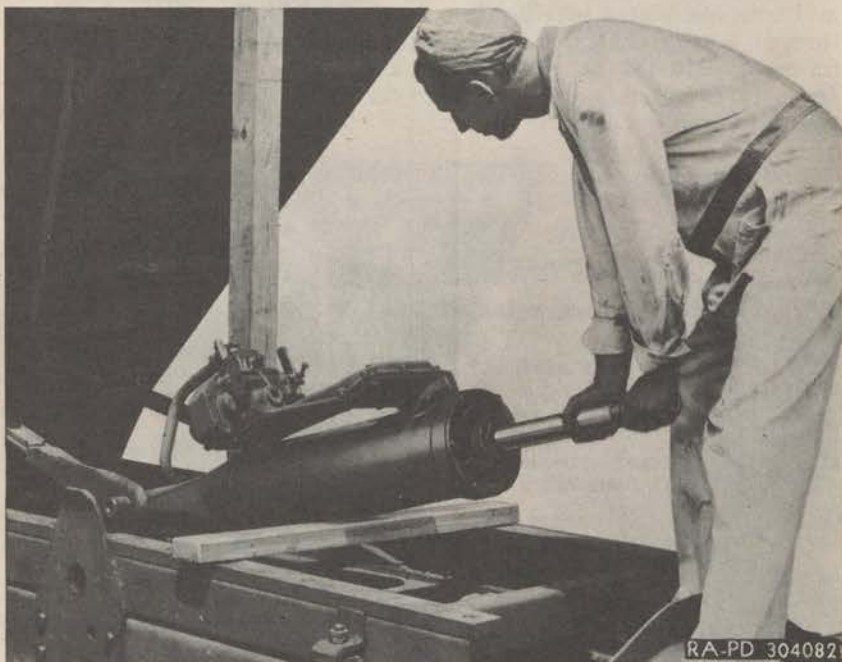

Figure 195—Lifting Hoist Trunnion Out of Frame Sockets
(6) **REMOVE HOIST ASSEMBLY.** Remove cap screws, lock washers and flat washers from the ends of the trunnion journals through the holes in the frame rails and then remove the spacers. Then remove the hoist trunnion tie bolts, nuts and lock washers from the hoist trunnion brackets (fig. 194). Push down on the piston rod to raise the trunnion journals from the sockets in the frame. Support the rear end of the hoist cylinder on another 2 x 4 across the frame (fig. 195). Remove the bolt, nut and lock washer from one of the lift arm collars and then